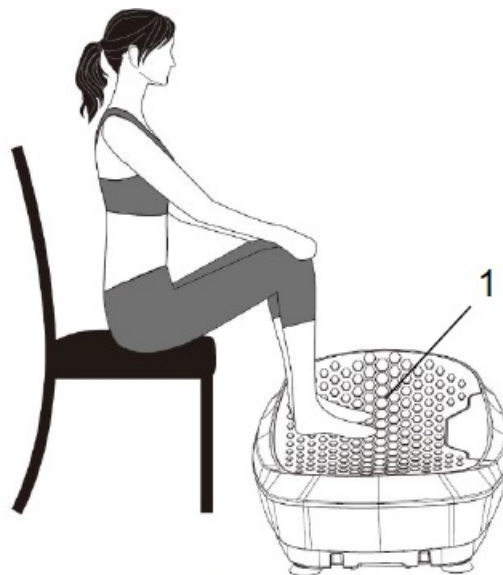

Fig. 5
4. Sit on a chair in front of the machine and place your feet on the Stepping Rubber (No. 1) for a relaxing vibration massage. This exercise is good for the lower and upper thighs. **(Fig. 5)**